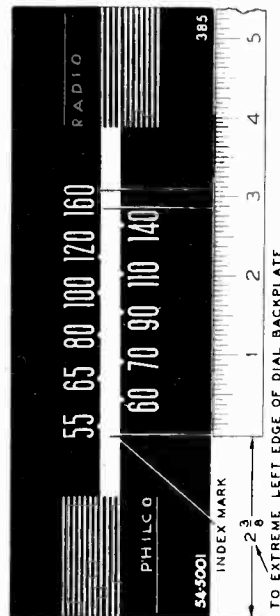

Figure 7. Dial-Backplate Calibration Measurements
**DIAL** — Calibration and pointer-index measurements are shown in figure 7. With tuning condenser fully meshed, set pointer to index mark.
The method of measuring for these points is illustrated in figure 7. Hold a ruler against the backplate, with the start of the ruler at the reference point for the required frequency setting. When the ruler is correctly placed, the index mark is approximately 2 3/8 inches from the reference point indicated in figure 7.